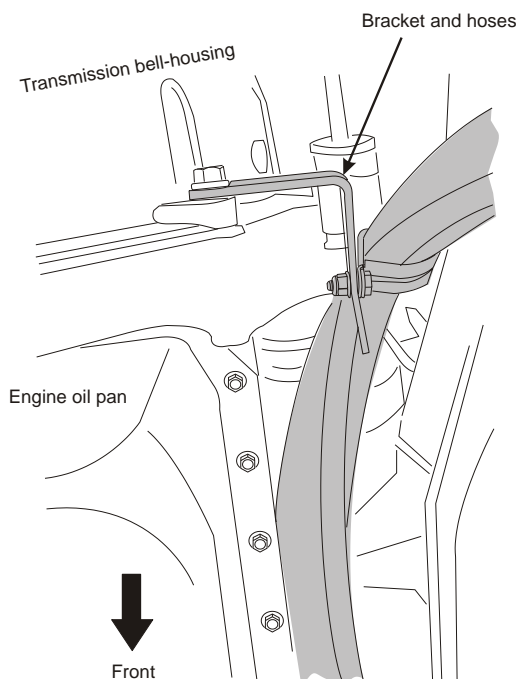

Figure 3.11
- ☐ Remove the bolt holding the exhaust hanger to the transmission bell housing and install the supplied L-bracket with the horizontal part of the bracket facing the passenger side (Figure 3.11).